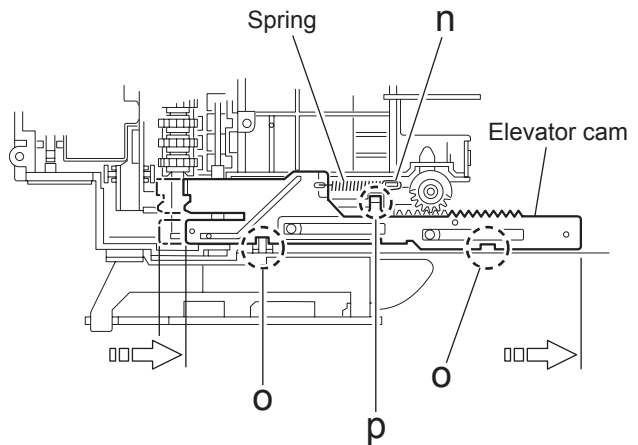

Fig.21
- (1) Push and release the two tabs **m** of the gear cover through the two notches inside the side (R) assembly. Remove the gear cover outward.
- (2) Remove the spring attached to part **n** of the hook on the right side of the body.
- (3) From top of the body, turn the 1 gear clockwise to move the elevator cam rearward. Move the two slots **o** and joint **p** of the elevator cam as shown in Fig.21 and remove the elevator cam outward.
- (4) Remove the three screws **K** and detach the side (R) upward.